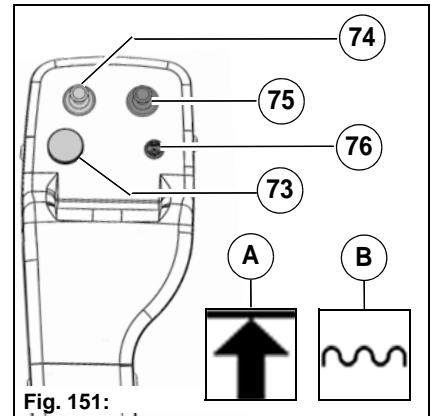

Fig. 151:
- In the multifunctional display, the upper stop information symbol **Fig. 151-A** or floating position symbol **Fig. 151-B** appears.